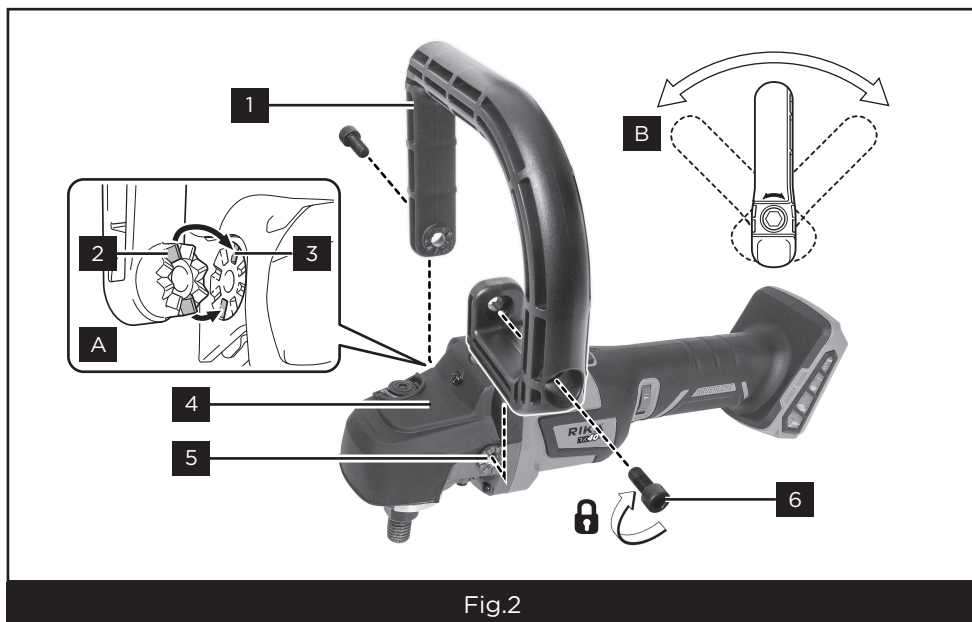

Fig.2
Attach the straight end of the auxiliary handle over the mounting hole on side of the tool head, fitting the guide ridges on the handle end well into the guide grooves around the mounting hole, Fig.2 (A).
The auxiliary handle can be tilted backwards and forwards to your preferred position. Loosen the hex bolts and move the auxiliary handle to your desired angle and then refasten the bolts to lock the angle, Fig.2 (B).